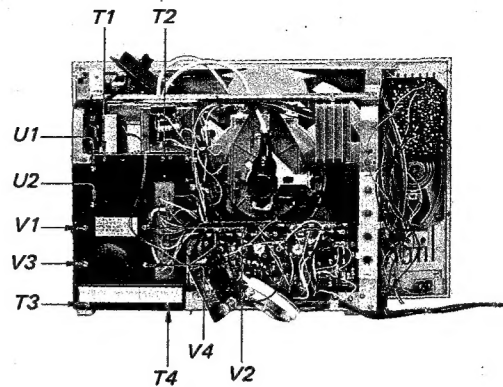

Fig. 2-28.
9. Remove the four screws labeled T1 ~ T4 in Fig. 2-28.
11. Replace the horizontal output transformer by removing the two screws labeled U1 ~ U2 in Fig. 2-28.
12. Replace the flyback transformer by removing the four screws labeled V1 ~ V4 in Fig. 2-28.